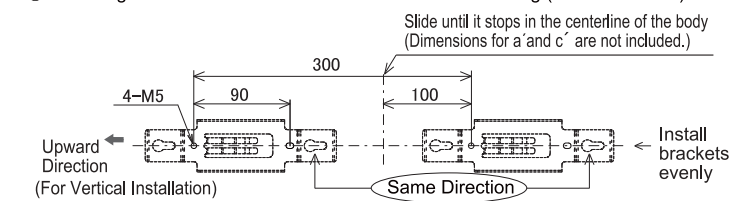

Figure 6. Mounting Hole Dimensions -2
① Ensure the Standard Bracket is attached to a flat and sturdy surface before making any holes for installation. Using an M5 screw, refer to "Figure 6. Mounting Hole Dimensions -2" and "Figure 3. Standard Bracket Mounting" to mount in place. Tighten the M5 screw with a torque of about 2.8 N·m.
② After attaching the Standard Bracket, the Body is attached. Insert the "Bracket Hook" in the back of the Main Unit and insert it into the "Slide-n-lock" holes of the bracket, then slide the Main Unit until the "Locking Hole" of the Main Unit is aligned with the "M3 tapping" for the Standard Bracket.
③ Use the "M3 tapping" Hex Socket Bolt to lock the Standard Bracket into place. This prevents the Body from unattaching from the Standard Bracket. Tighten with a torque of about 0.6 N·m.
① Mounting Hole Dimensions and Standard Bracket Mounting (Recommended)